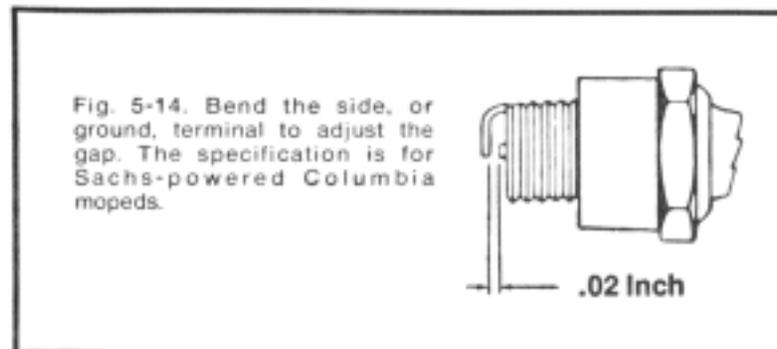

Fig. 5-14. Bend the side, or ground, terminal to adjust the gap. The specification is for Sachs-powered Columbia mopeds.
**Gapping.** Using a round feeler gauge, gap the plug to specification (Fig. 5-14). The gauge wire should pass between the center and side electrode with a light drag. If it binds, use the bending tool on the gauge to open the side electrode; if the gauge passes through without touching both electrodes, tap the center electrode on something hard. With a little practice you will be able to correctly gap a spark plug in a few seconds.